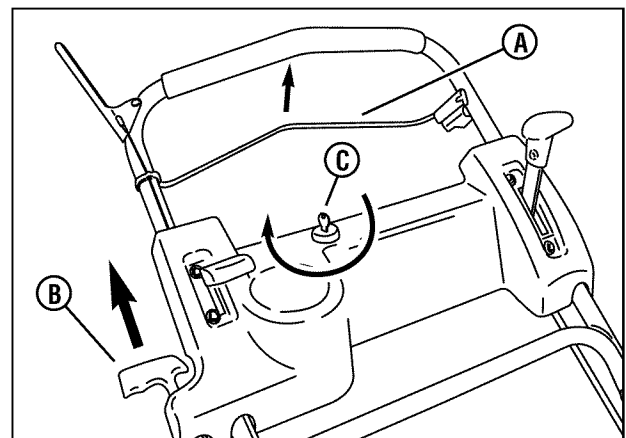

Figure 4: Starting the mower
3. Pull the blade control (**A, Figure 4**) against the handle.
3. Pull the blade control (**A**, **Figure 4**) against the handle.